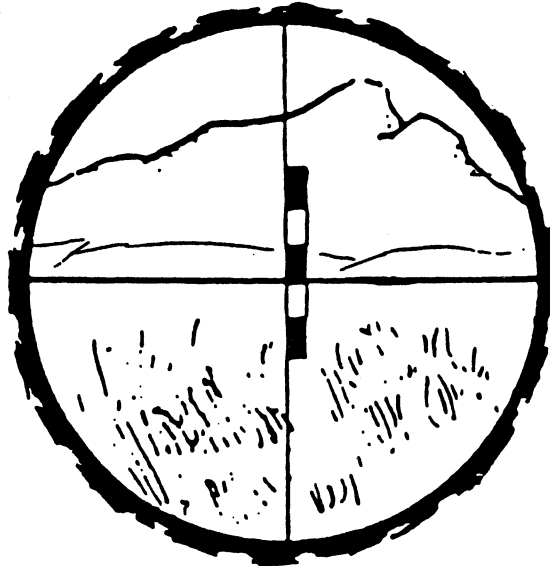

Fig 4-4. Aligning on the direction stake.
- (1) **Bisect**: You lift the bipod legs off the ground and move the gun until the vertical crossline of the sight is aligned with the left edge of the direction stake (fig 4-4).
- (4) **Level the Crosslevel**: You level the crosslevel bubble by turning the crossleveling mechanism until the bubble is within the outside red lines.
- (5) Traverse halfway and minor adjust: You will now look into the sight. If you are within 20 mils of your direction stake, turn the traversing handwheel forward or backward (whichever is necessary) until the vertical crossline moves half the distance to the direction stake. You then look at the crosslevel bubble and crosslevel the gun using the crosslevel mechanism. Repeat this procedure until the vertical crossline of your sight is within 2 mils of the left edge of the direction stake (see fig 4-4).